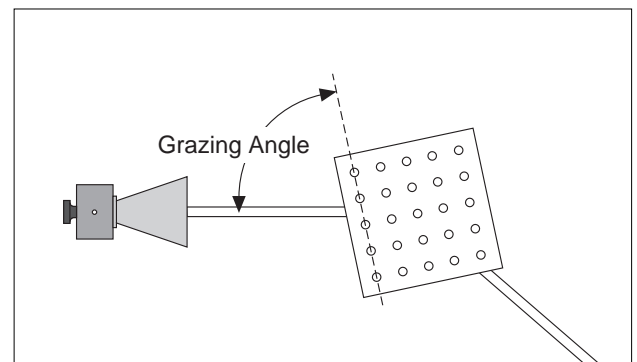

Figure 12.3 Grazing Angle
- ③ Rotate the crystal (with the rotating table) one degree clockwise and the Rotatable Goniometer arm two degrees clockwise. Record the grazing angle of the incident beam and the meter reading. (The grazing angle is the complement of the angle of incidence. It is measured with respect to the plane under investigation, **NOT** the face of the cube; see Figure 12.3.)
- ④ Continue in this manner, rotating the Goniometer arm two degrees for every one degree rotation of the crystal. Record the angle and meter reading at each position. (If you need to adjust the INTENSITY setting on the Receiver, be sure to indicate that in your data.)
- ⑤) Graph the relative intensity of the diffracted signal as a function of the grazing angle of the incident beam. At what angles do definite peaks for the diffracted intensity occur?